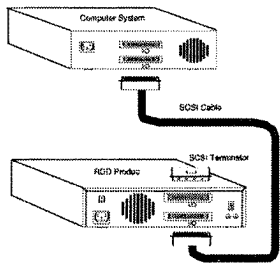
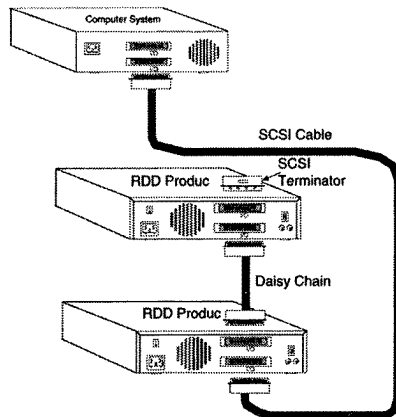

Figure 8 - Typical Single SCSI Connection
Figure 9 - Daisy Chain SCSI Connection
5. Connect the other end to either your computer system or another peripheral device, depending on your configuration (see figures 8 and 9). Be careful to select the correct port. Your computer system may have multiple SCSI ports for third party board(s) or the native CPUs board. Refer to your computer system owner's manual or call Rorke Data for assistance.
6. If your RDD product is the last device on the SCSI network, then it will require the appropriate termination for the I/O connector. Refer to Figure 8 for a typical single SCSI connection and Figure 9 for a daisy-chained SCSI connection. Only the last device in the SCSI chain requires termination.